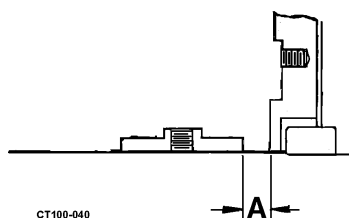

Figure 33 - Drive Collar to Backplate Dimension
3. Scribe a mark on the shaft at location “A” behind the backplate. See Figure 33.
6. Locate the drive collar in relation to the scribe mark and secure it to the shaft with the setscrews. See Figure 33.
Table 9: Callout dimensions for Figure 33